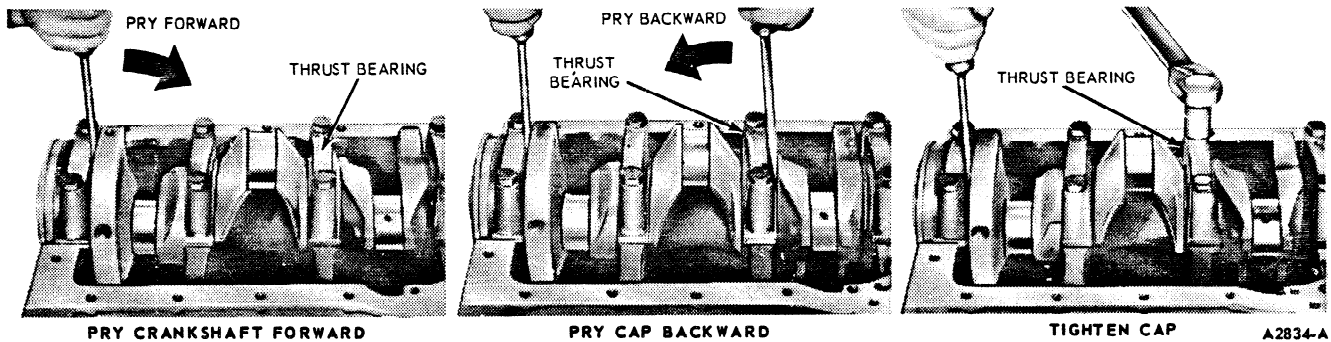

FIG. 54 Aligning Thrust Bearing
Install the thrust bearing cap with the bolts finger-tight. Pry the crankshaft forward against the thrust surface of the upper half of the bearing (Figure 54). Hold the crankshaft forward and pry the thrust bearing cap to the rear. This will align the thrust surfaces of both halves of the bearing. Retain the forward pressure on the crankshaft. Torque the cap bolts to specifications.
11. Pry the crankshaft forward against the thrust surface of the upper half of the bearing (Figure 54).